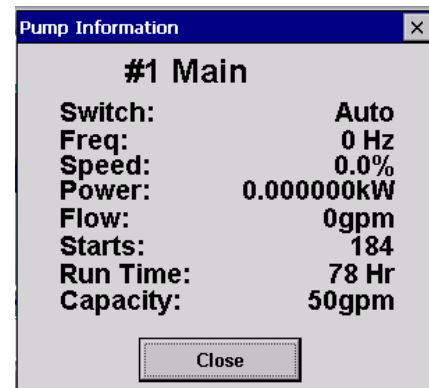

Figure 13: Pump Information
- a. By tapping  , an enhanced screen shown in Figure 13 will appear with more detailed information.